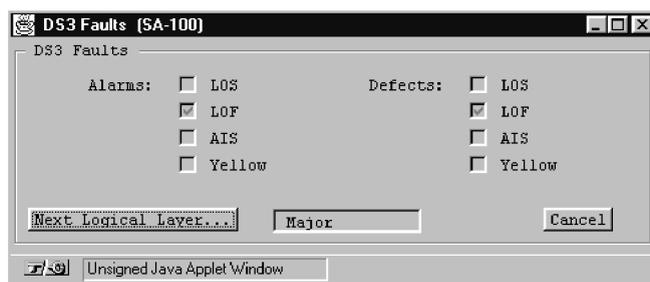

Figure 6-29. DS3/E3 Faults Window (DS3 shown)
1. Choose the Faults button. The DS3 Faults or E3 Faults window appears (Figure 6-29), displaying any faults detected on the port. See Table 6-27 for a description of each button and field in the DS3 Faults and E3 Faults windows.